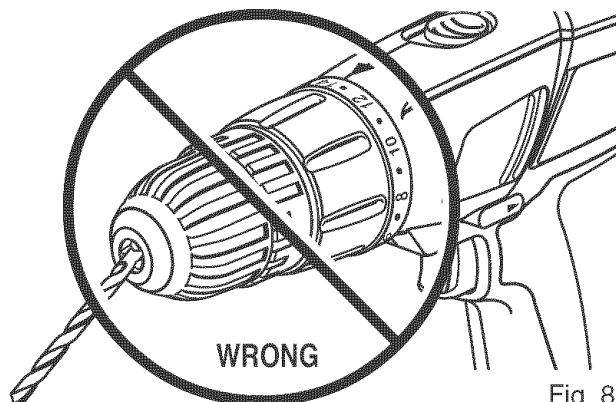

Fig. 8
**WARNING:** Make sure to insert drill bit straight into chuck jaws. Do not insert drill bit into chuck jaws at an angle then tighten, as shown in Figure 8. This could cause drill bit to be thrown from drill, resulting in possible serious personal injury or damage to the chuck.